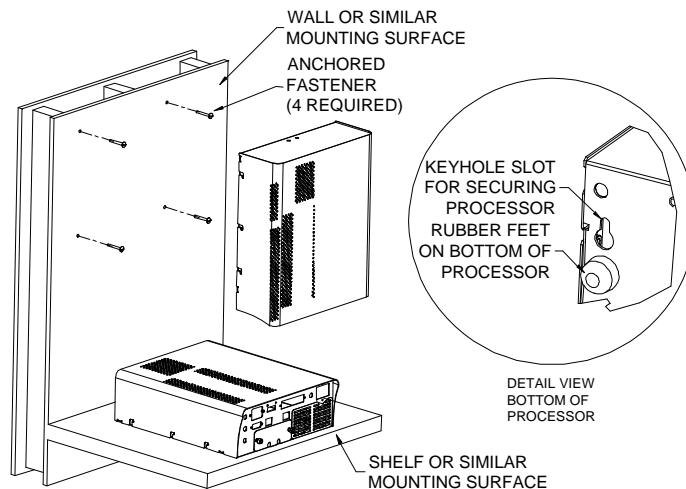

FIGURE 13 - STANDARD MOUNTING OF PROCESSOR
4. Mount the processor on your mounting surface and tighten the hardware to secure the unit. See Figure 13.